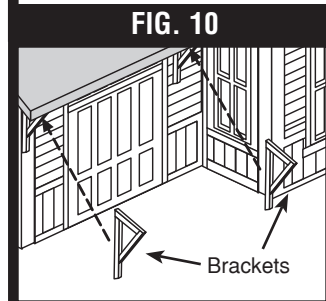

FIG. 10
7. Glue 8 brackets to walls and under roof as shown (FIG 10). See Trackside View and Curbside View for placement.